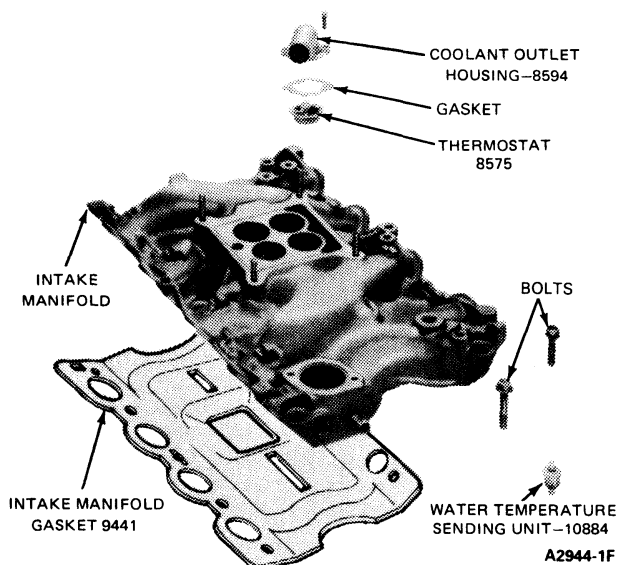

FIG. 14 Intake Manifold Disassembled
13. If manifold is to be further disassembled (Fig. 14), remove coolant outlet housing, gasket, and thermostat. Remove automatic choke heat tubes, carburetor, spacer, and gaskets. Remove the thermostatic choke heater tube. Remove engine temperature sending unit. Remove the EGR valve and gasket. Discard all gaskets.